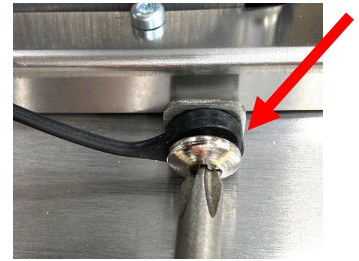

Figure 21
21. Disconnect the lanyard from the existing bezel and set aside for reassembly (see Figure 21).